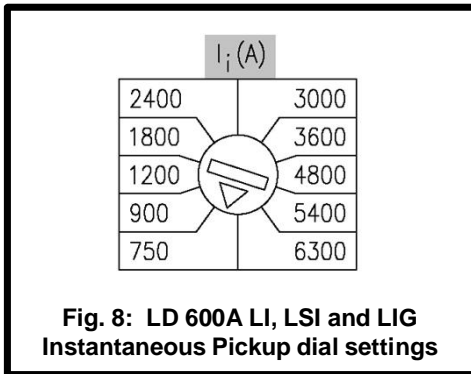
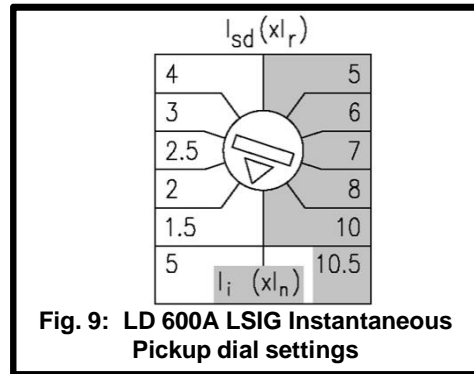

Fig. 8: LD 600A LI, LSI and LIG Instantaneous Pickup dial settings
Fig. 9: LD 600A LSIG Instantaneous Pickup dial settings
All model types have an adjustable Instantaneous Pickup setting. This adjustment sets the Instantaneous Overcurrent Pickup of the circuit breaker. For LI, LSI, and LIG breakers (see Fig. 8), there are ten (10) Instantaneous Pickup settings that are displayed in Amps. For LSIG breakers (see Fig. 9), there are two Instantaneous Pickup settings which are selected based on the Short Time Pickup setting. These two settings are a multiple of the maximum Frame Rating (I_n). As shown in Fig. 9, the Short Time Pickup settings on the left select an Instantaneous Pickup of $5 \times I_n$, and the Short Time Pickup settings on the right select an Instantaneous Pickup of $10.5 \times I_n$.